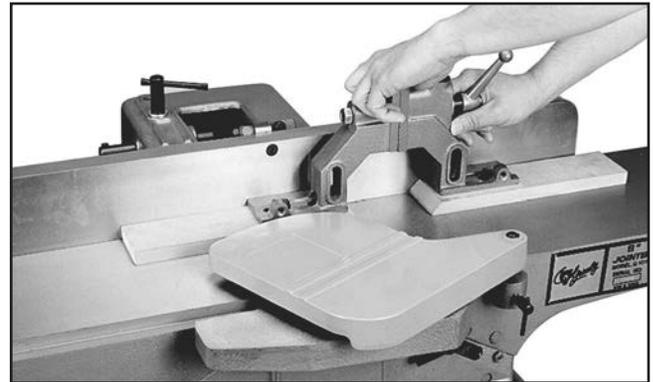

Figure 73. Example of resurfacing fences on a jointer.
3. If fences are not coplanar with each other, remove both fences and resurface as one unit. You can perform this operation on a jointer as shown in **Figure 73**.